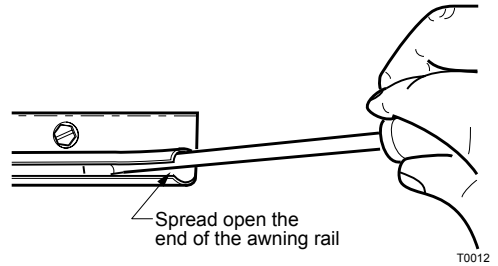

Figure 3. Adjusting the Awning Rail.
7. (Refer to Figure 3) Use a screwdriver to spread open one end of the awning rail on the installation side.